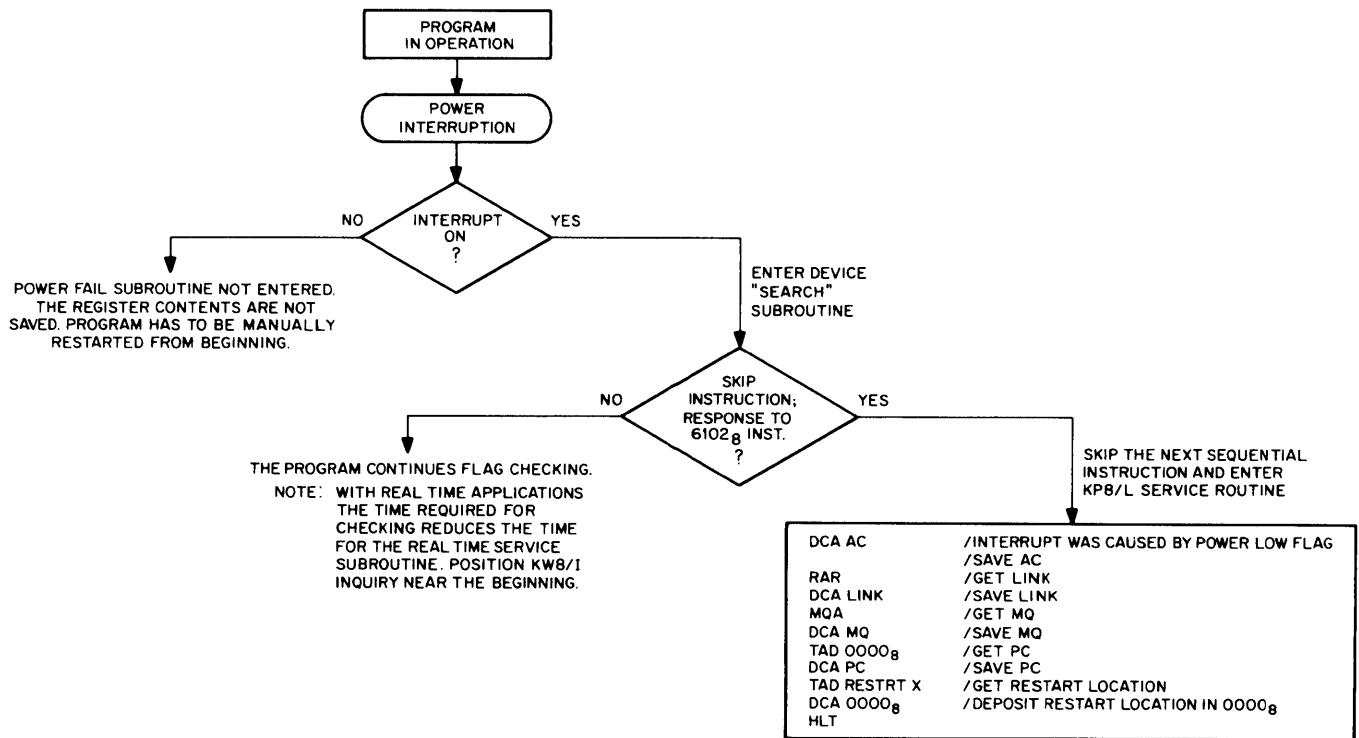

Figure 1 Power Fail Service Subroutine
crease in the +5V dc voltage, and generate a low logic level, SHUTDOWN. This signal sets the KP8/L PWR LOW flag flip-flop (Drawing D-BS-KP8L-0-1). PWR Low (0) generates INT RQST (Drawing D-BS-PDP8-L-10). A program interrupt occurs if the processor interrupt facility is enabled. The interrupt is effected in the usual manner with a search subroutine using the octal instruction 6102 (SPL, Skip on Power Low) to enable the PWR SKIP gate signal to locate the interrupting source. The PWR SKIP gate is enabled by PWR LOW (1), the power-fail device selection code (10g, from MB03 through MB08), and the interrogation timing signal IOP2(1). PWR SKIP generates I/O SKIP (Drawing D-BS-PDP8-L-10) which allows entry into the power fail service subroutine (Figure 1). The service subroutine stores the contents of the AC, Link, and PC in core memory. Also, any critical information that might be lost in a power failure is transferred first to the AC, and then into core memory during this subroutine. When a program interrupt occurs, and the interrupt facility is enabled, the contents of the PC are automatically stored in location 0000g. Because location 0000g is used later with the restart program, this content (PC word) is then relocated in memory. Finally, a JMP instruction to address X is stored in location 0000g, and the HLT instruction is executed. Address X is the starting location of the restart program. The HLT instruction must be included in the power fail service routine following the instructions that store the contents of the registers after all register storage has occurred.